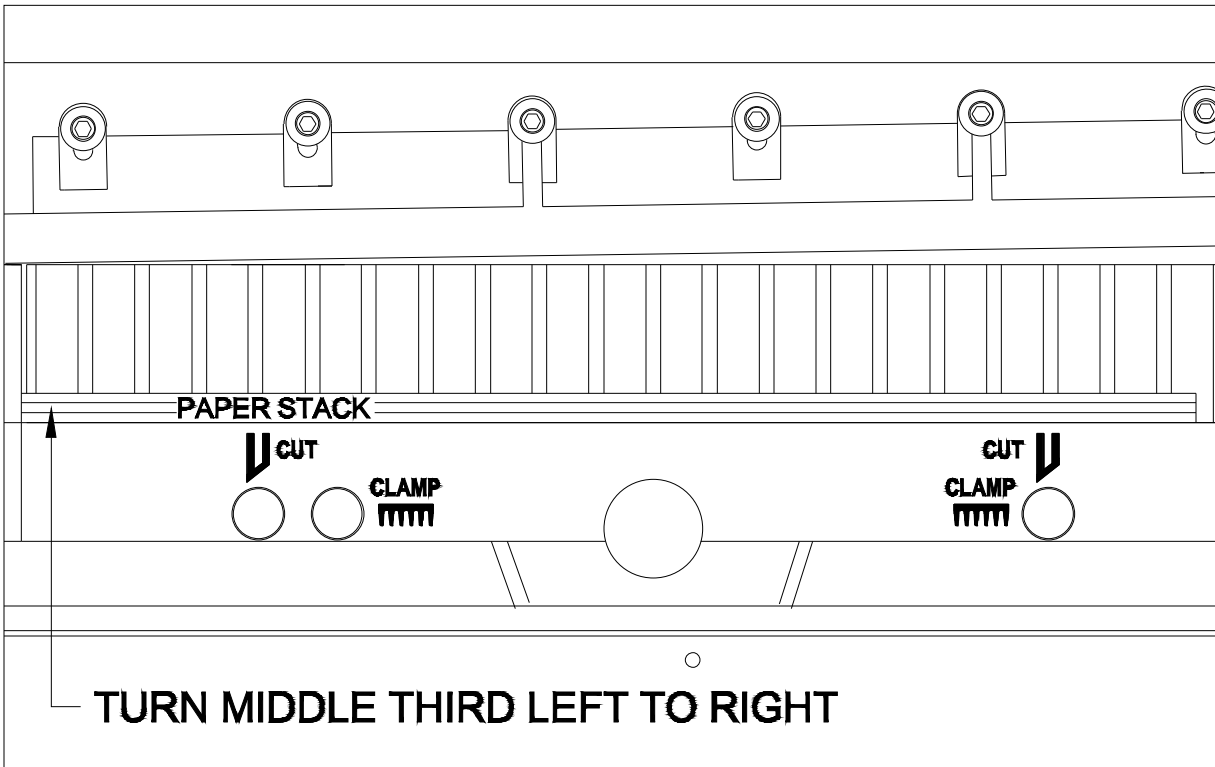

Fig 24
- Divide the stack in to three (3) even stacks. Flip over the middle stack from right to left. Fig. 24.